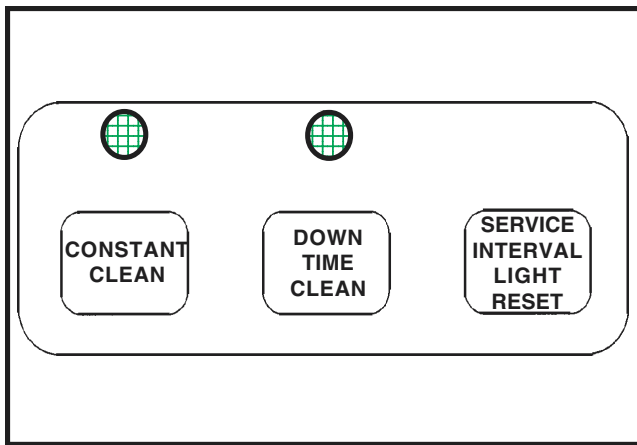

Figure 7
1.2.6 Unlabeled Window (Figure 7)